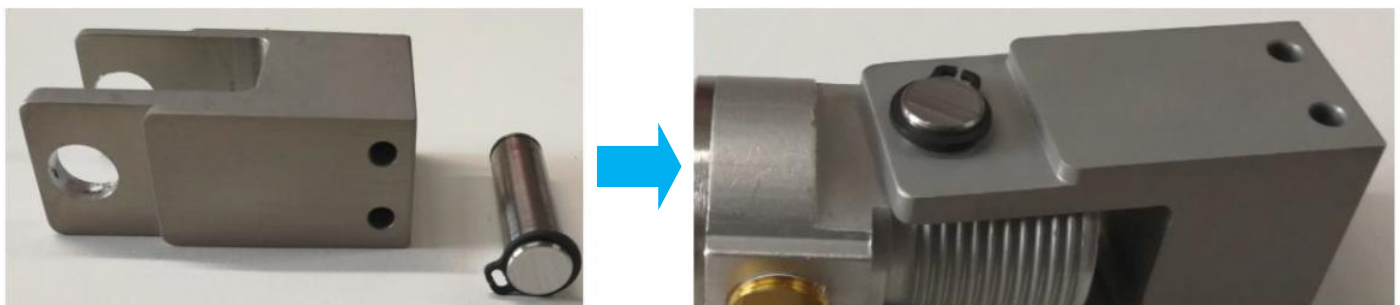

Figure 14
19. Assemble Rear Cylinder Holder & Dowel pin into New Outer barrier cylinder. May refer to below Figure 14.